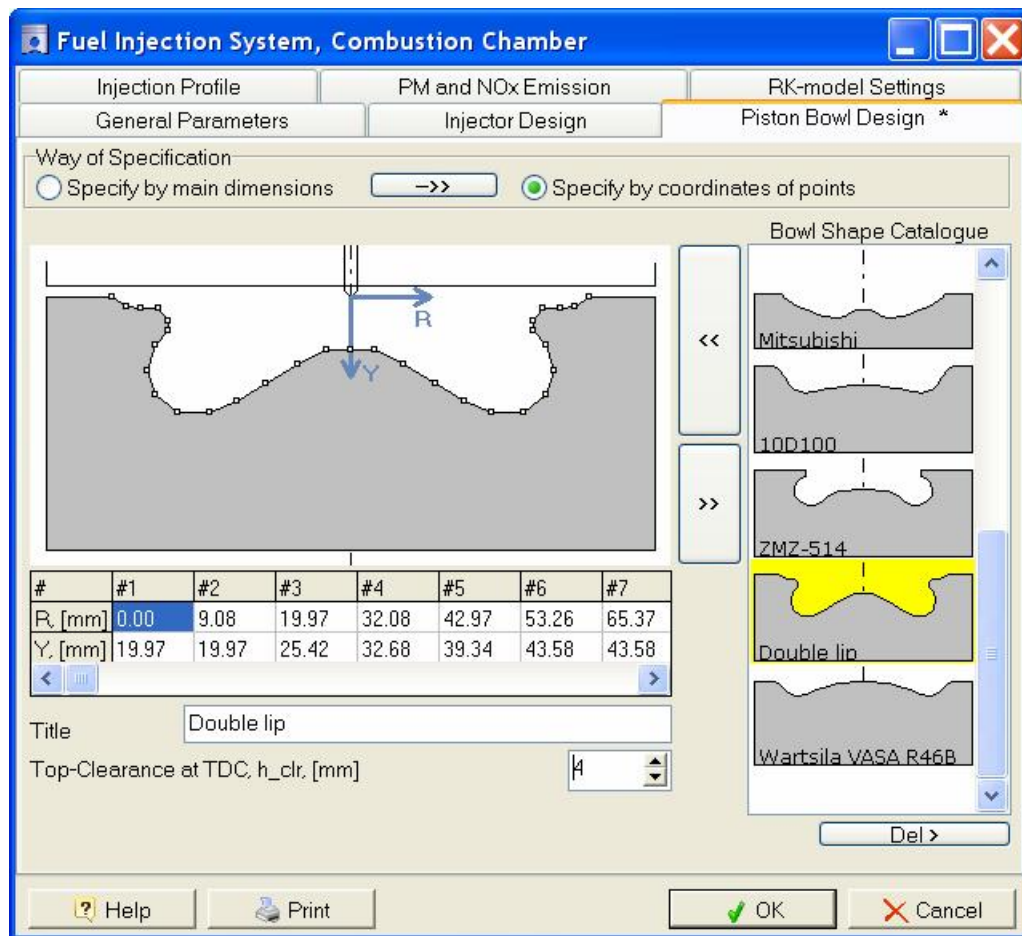

Fig. 3. Specification of piston bowl by coordinates of points.
2. Using coordinates of points: radius R and depth Y , fig 3. The 16 points have to be set in [mm].